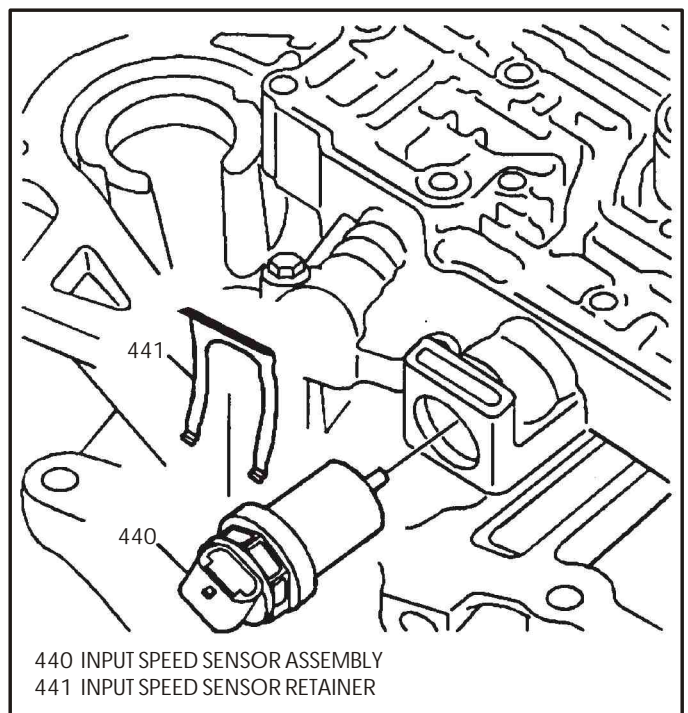

Figure 182
92. Install the input speed sensor (440) into case cover, as shown in Figure 182.
93. Install the input speed sensor retainer (441) into the case cover, as shown in Figure 182.